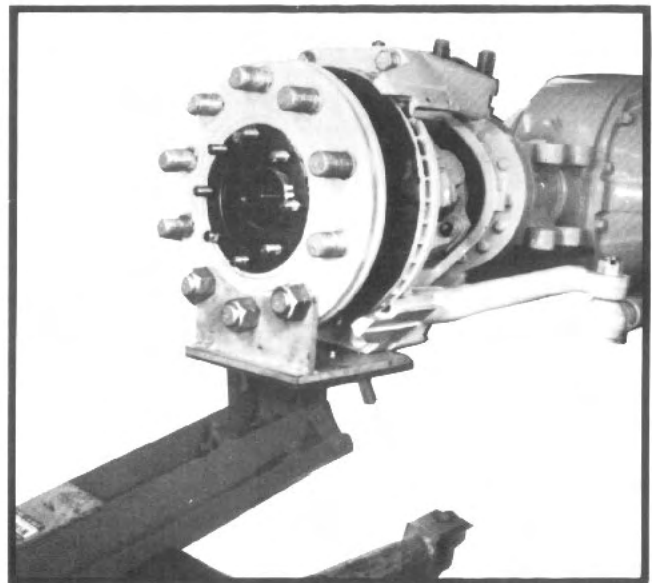
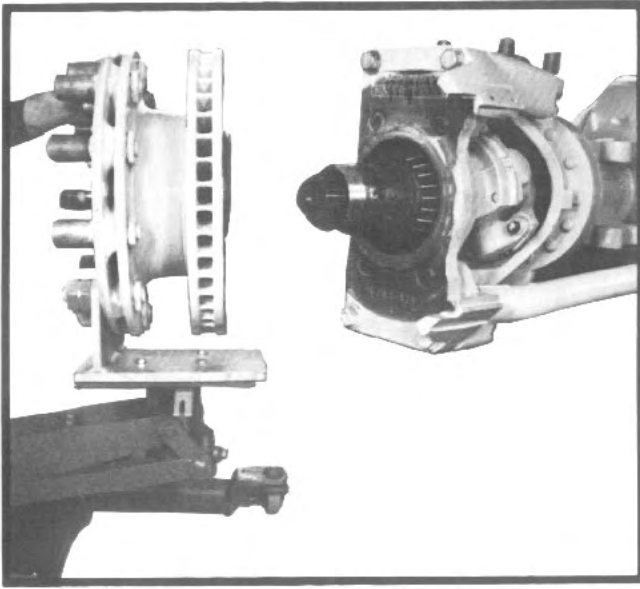

Fig. 11
FIG. 12
8. Install transmission jack adapter on a suitable transmission jack (See fig. 11 and Tool Reference, Section XII). Supporting hub and rotor assembly with the transmission jack, back the hub off the spindle, using care to avoid damage to bearing surfaces and threads (See fig. 12).
4. Attach hub and rotor assembly to transmission jack adapter (See fig. 11 and Tool Reference, Section XI). Raise hub to the level of the spindle and place hub over the spindle. Use care to avoid damage to bearing surfaces, threads, and hub seal. Remove transmission jack from hub and rotor assembly.